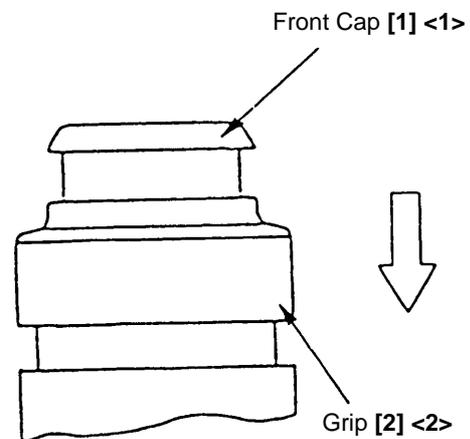

Fig. 10
(1) Disassembly of the Striking Mechanism Section
- Remove Spring (B) **[34] <34>** from the end of the Second Shaft **[35] <35>**, and turn the Second Shaft **[35] <35>** so that the Piston **[30] <30>** moves to its maximum upper position (inner cover side). The arm of the Reciprocating Bearing **[40] <40>** can then be disconnected from the Piston Pin **[31] <31>**, and the Second Shaft **[35] <35>** and the components mounted on it can be removed from the Inner Cover **[33] <33>** as a unit.
- Move the Clutch **[38] <38>** to the pinion side of the Second Shaft **[35] <35>**, and pull off the O-Ring S-8 **[39] <39>**. The Clutch Spring **[37] <37>** and Washer (B) **[36] <36>** can then be removed from the Second Shaft **[35] <35>**.
(2) Disassembly of the Chuck Section
As shown in Fig. 10, slide the Grip **[2] <2>** in the direction indicated by the arrow mark, and remove the Front Cap **[1] <1>**. The Grip **[2] <2>**, Ball Holder **[3] <3>** inside the Grip, Holder Spring **[4] <4>**, Washer (B) **[5] <5>** and Steel Ball **[18] <18>** can then be removed from the Cylinder **[20] <20>**.